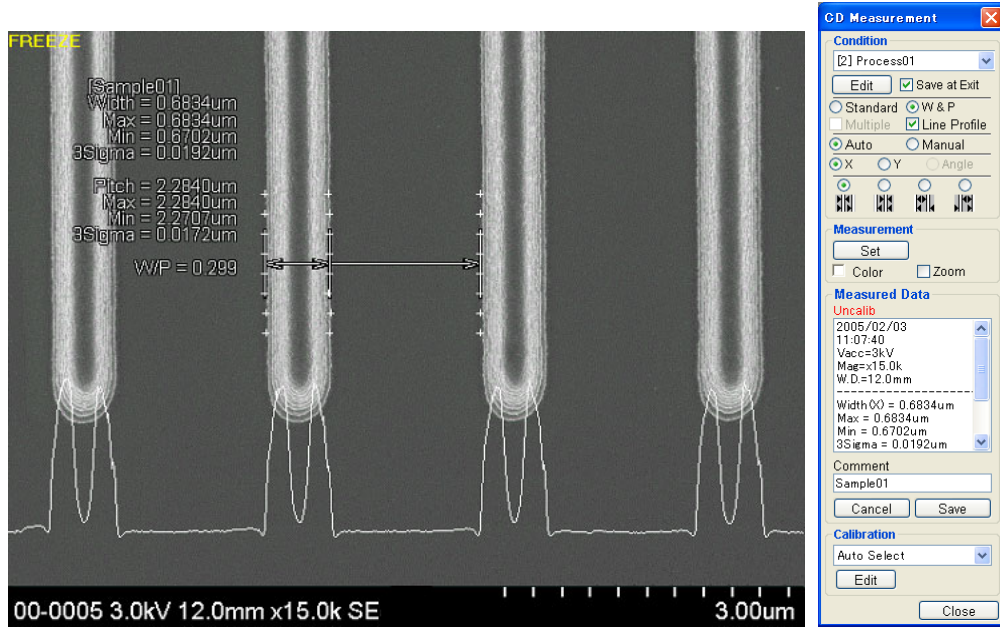

Fig. 6.4-30 Width & Pitch Auto Measurement Results Display
- (d) Align the cursor with the part to be measured as in auto measurement, click the **Measure** button and then the measured results will appear as in Fig. 6.4-30.